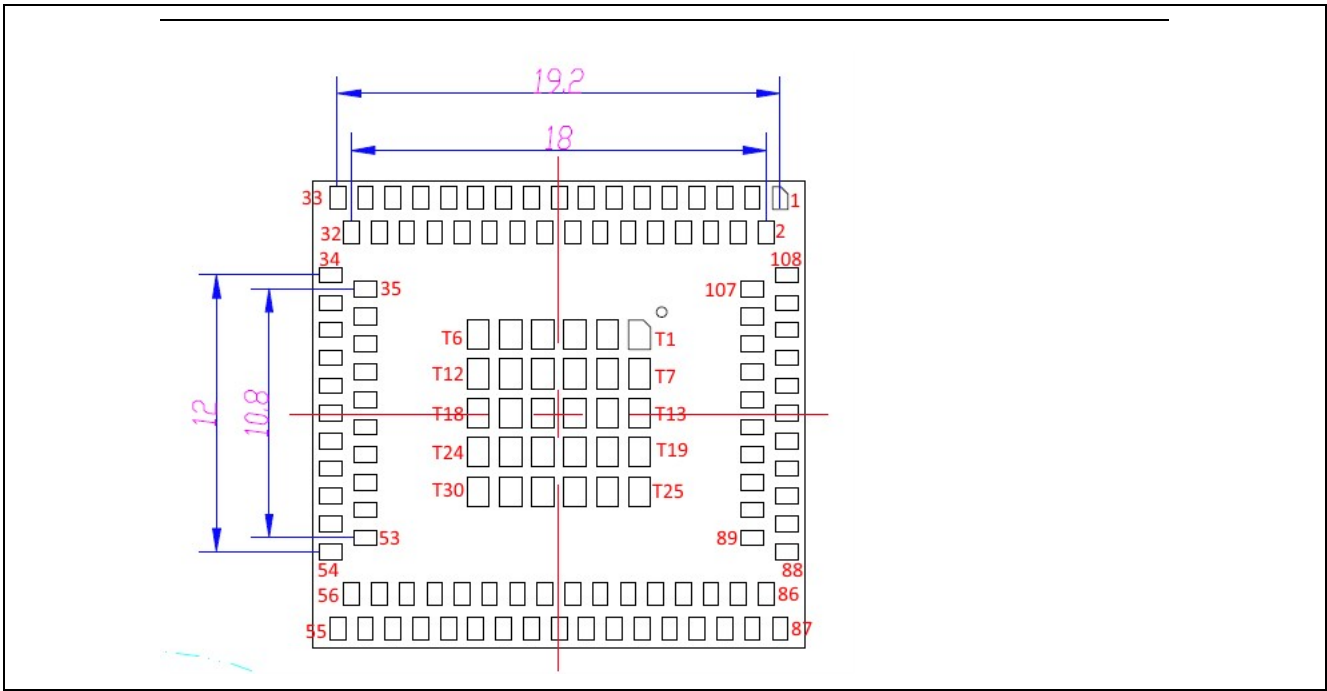
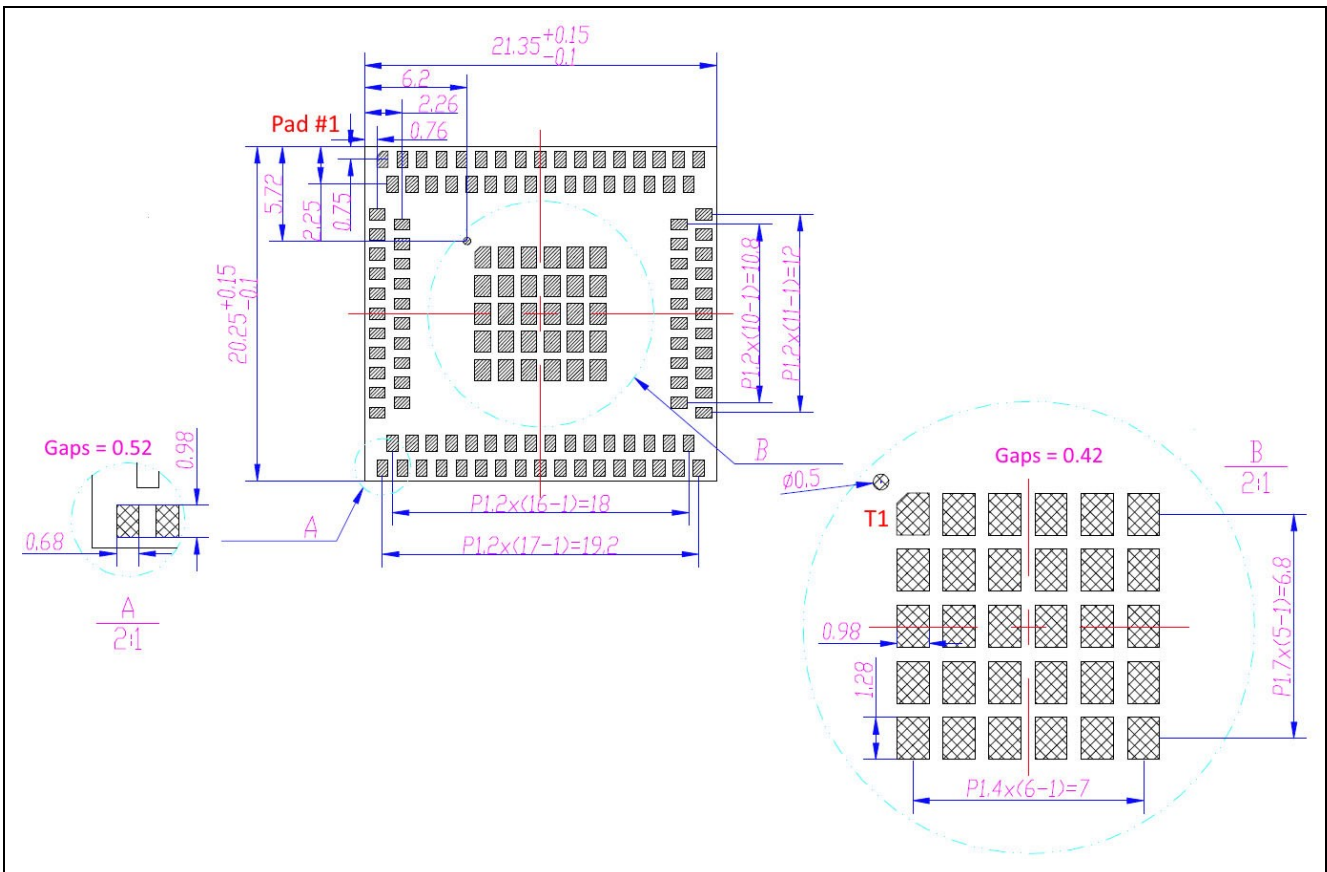

Figure 11. Module Bottom View, Dimensions and Pads Numbering (Module View)
Figure 12. Module Detailed Bottom View and Dimensions (PCB View)
**Note:** Figure 11 is a view of the pads seen on the module, and Figure 12 represents the footprint of the module on the PCB. Pad #1 is located on the top right of the module in Figure 11 and will be soldered on the top left area of the PCB footprint on Figure 12.